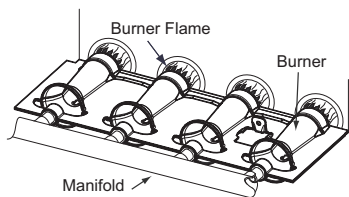

Fig. 64 - Burner Flame
8. Reverse items 6 through 1 for reassembly.
11. Check furnace operation through 2 complete heat operating cycles. Look at burners. Burner flames should be clear blue, almost transparent. See Fig. 64.